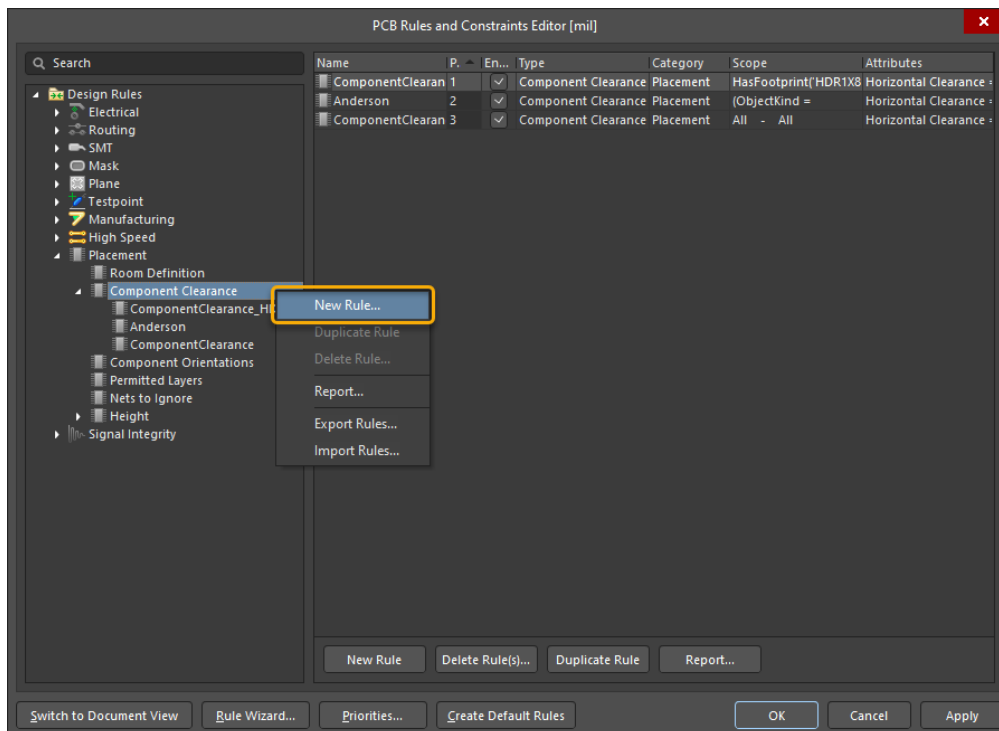

Figure 19. Placement Rule
44. Open the Design Rules menu **Design » Rules**, add a new **Placement – Component Clearance** Rule, see Figure 19.